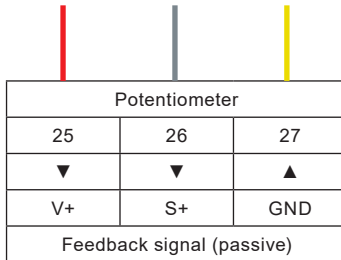

Fig. 22 Anti-Condensation Heater Terminal Diagram
- Connect the wires as indicated in Fig. 22 Anti-Condensation Heater Terminal Diagram and cable tie the wiring harness carefully as indicated
- Connect the wires as indicated in Fig. 22 Anti-Condensation Heater Wiring Diagram